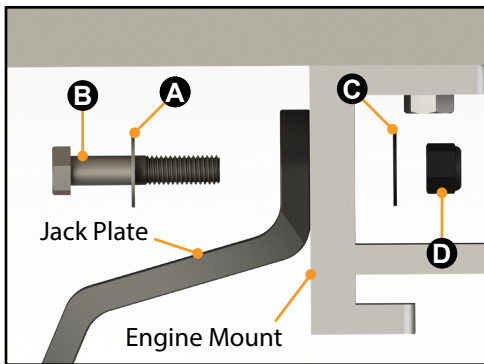

Fig. 3
4. Use the supplied Jack Plate Hardware Kit 2024028625 (Fig. 3) to install the Jack Plate to the boat.